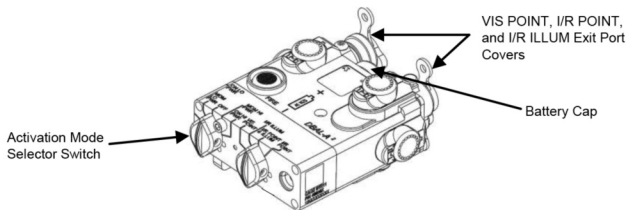

Figure 1. AN/PEQ-15A Temporary Storage
5. Rotate the Activation Mode Selector Switch (WP 0006, Figure 1) to the ON position and aim center mass of the target until the aiming laser disappears through the 3 cm cut out.
10. Once the I/R POINT laser is zeroed, rotate the Laser Mode Selector Switch (WP 0006, Figure 2) to select the I/R POINT & ILLUM position and rotate the Activation Mode Selector Switch (WP 0006, Figure 1) to select the ON setting.
1. Turn the Activation Mode Selector Switch (Figure 1) to the 0 (OFF) position.
2. Remove battery by unscrewing the Battery Cap (Figure 1) counter clockwise and tilt the AN/PEQ-15A to where the battery (WP 0005, Figure 1) falls out.
3. Replace Battery Cap (Figure 1) by turning clockwise until finger tight.
4. Install the VIS POINT, I/R POINT, and I/R ILLUM Exit Port Covers (Figure 1) over the Laser exit ports.
The procedures contained in Table 1 will help the Crew correct some of the basic problems that may arise with the AN/PEQ-15A. If the equipment malfunction is not listed or the actions listed do not correct the fault, turn the unit and all items listed in WP 0011, Figure 1, to Maintainer Maintenance.